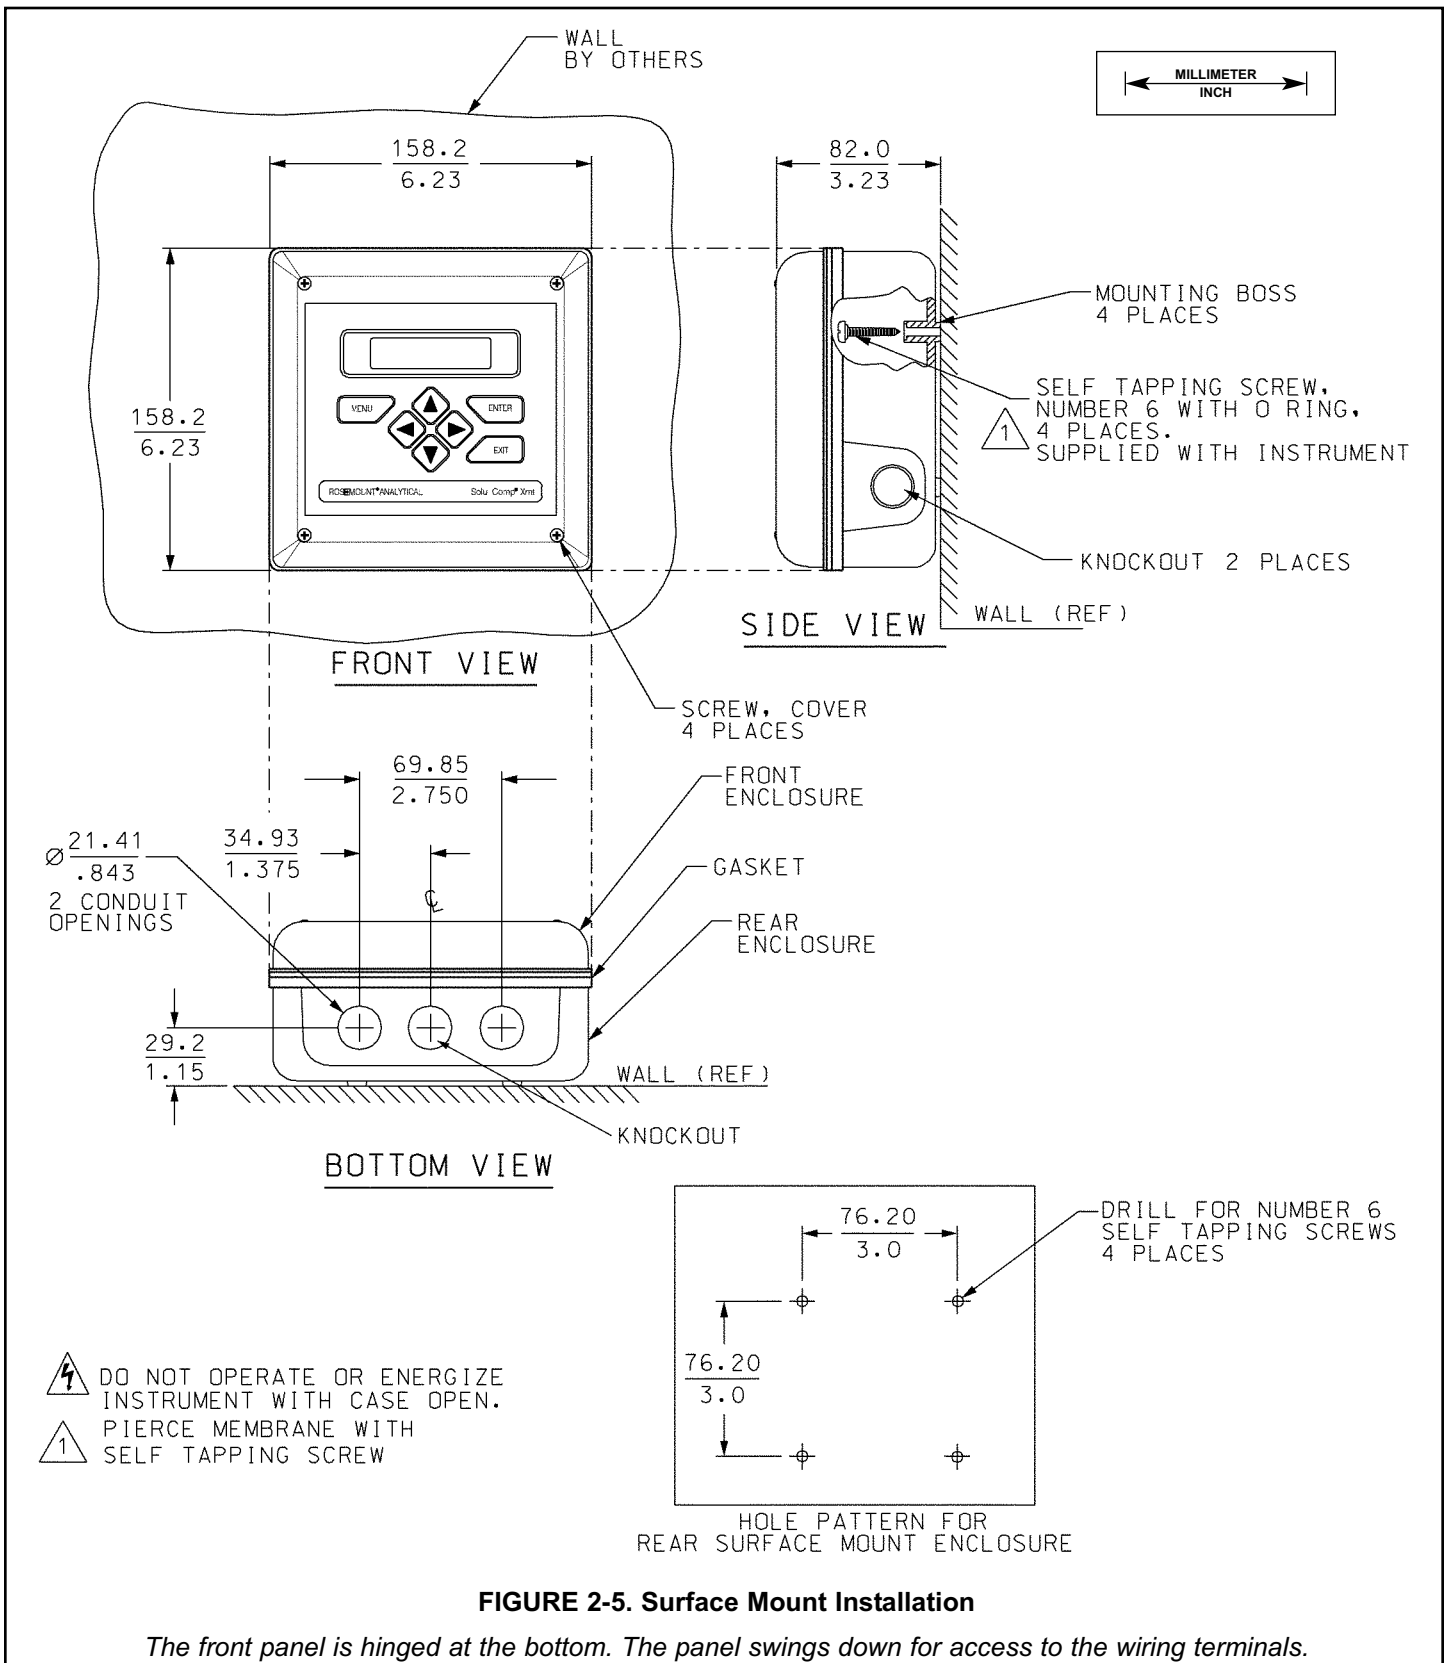

FIGURE 2-5. Surface Mount Installation
4. The transmitter is suitable for panel (Figure 2-3), pipe (Figure 2-4), or surface (Figure 2-5) mounting.